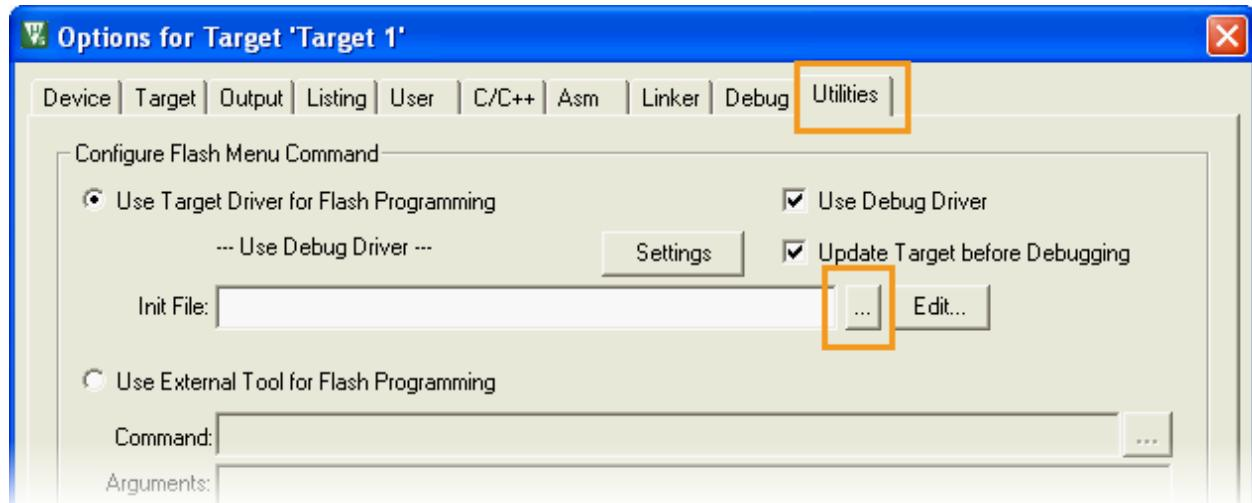

Figure 51. Select configuration file
- 4) Select **Utilities** tab, then browse for the **Init File**. Select the file and press **Open**. The configuration file for the SDK is named as flash.ini and located under <sdk_root>\tools\keil\mt7687, as shown in Figure 51.